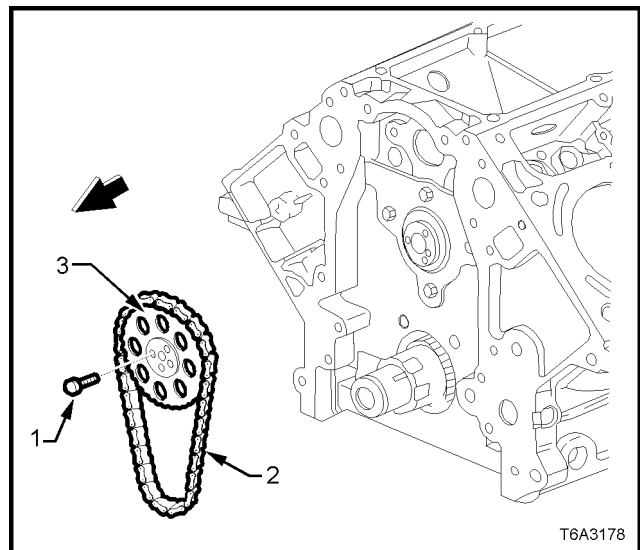

Figure 6A3-256
9. Before installing the camshaft sprocket bolts ('1' in Figure 6A3-262), check that the timing marks are aligned as shown. If not, repeat Steps 4 to 8 above.